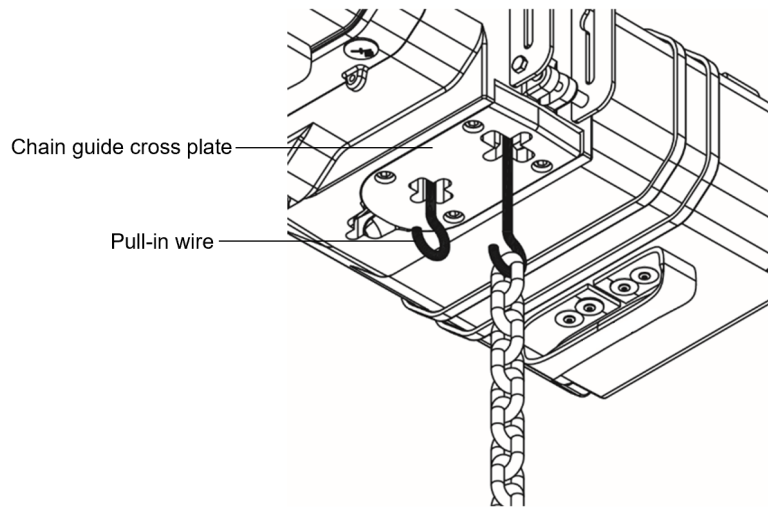

Figure 23. Pull-in wire through the hoist
2. Attach the first link of the new chain to the end of the pull-in wire nearest to the bracket as show in Figure 23.